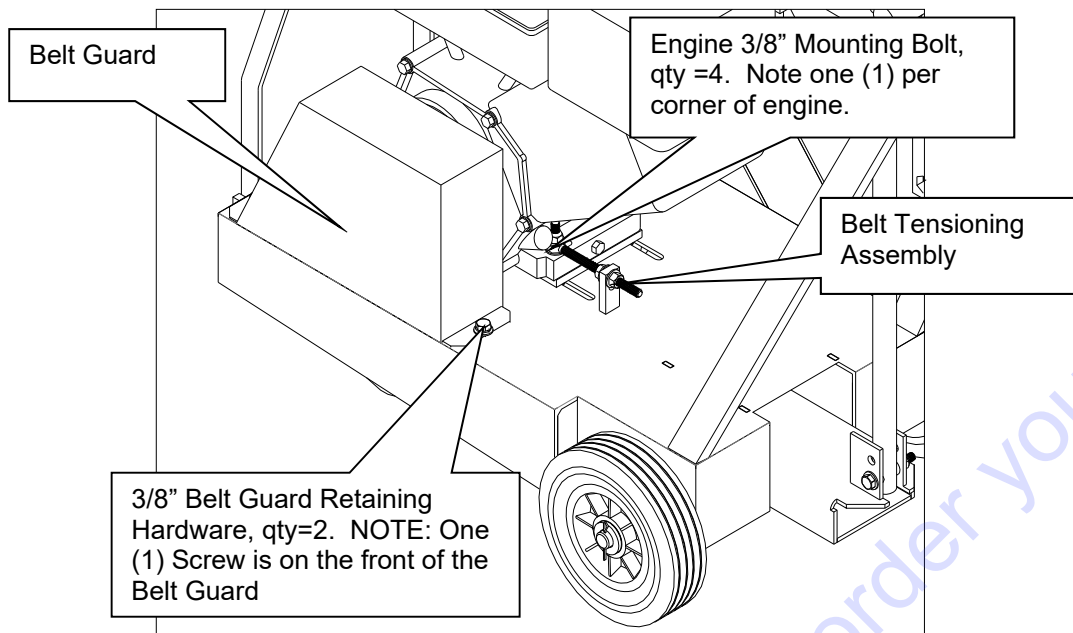

Figure: C13PE and C14PEK Belt Tensioning System
1. Review the locations of the C13PE and C14PEK Belt Tensioning system before proceeding. (See **Figure: C13PE and C14PEK Belt Tensioning System** on the previous page).
2. Remove the Belt Guard by loosening and removing the two (2) 3/8" Belt Guard Retaining Hardware sets.
4. Slightly loosen the four (4) 3/8" Engine Mounting Bolts. NOTE: The four 3/8" Engine Mounting Bolts will need to remain snug during the belt tensioning process. Not keeping the 3/8" Engine Mounting Bolts snug may allow the engine to twist in the mounting slots which may result in the pulleys becoming missed aligned.